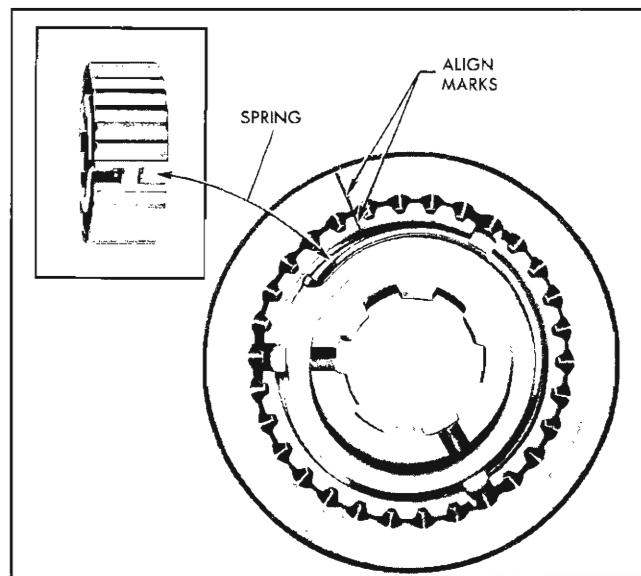

Fig. 7B-23 Synchronizer Spring and Hub Installed
- Place the two springs in position (one on each side of the hub), so a tanged end of each spring falls into the same keyway in the hub (inset, Fig. 7B-23). Holding keys in position, align etched marks (Fig. 7B-23), in hub and sleeve, then slide hub into sleeve. *Be sure etched marks align after assembly.*